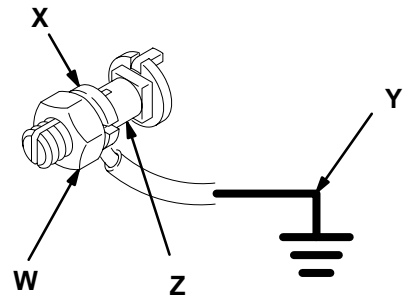

Fig. 1
1. *Pump*: loosen the grounding lug locknut (W) and washer (X). Insert one end of a 1.5 mm² (12 ga) minimum ground wire (Y) into the slot in lug (Z) and tighten the locknut securely. See Fig. 1. Connect the other end of the ground wire to a true earth ground.